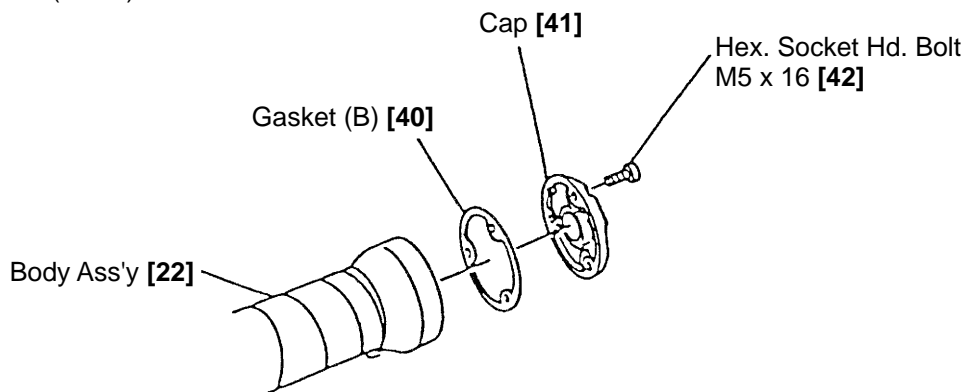

Fig. 11 Disassembly and reassembly of the Cap
(1) Disassembly and reassembly of the cap (See Fig. 11)